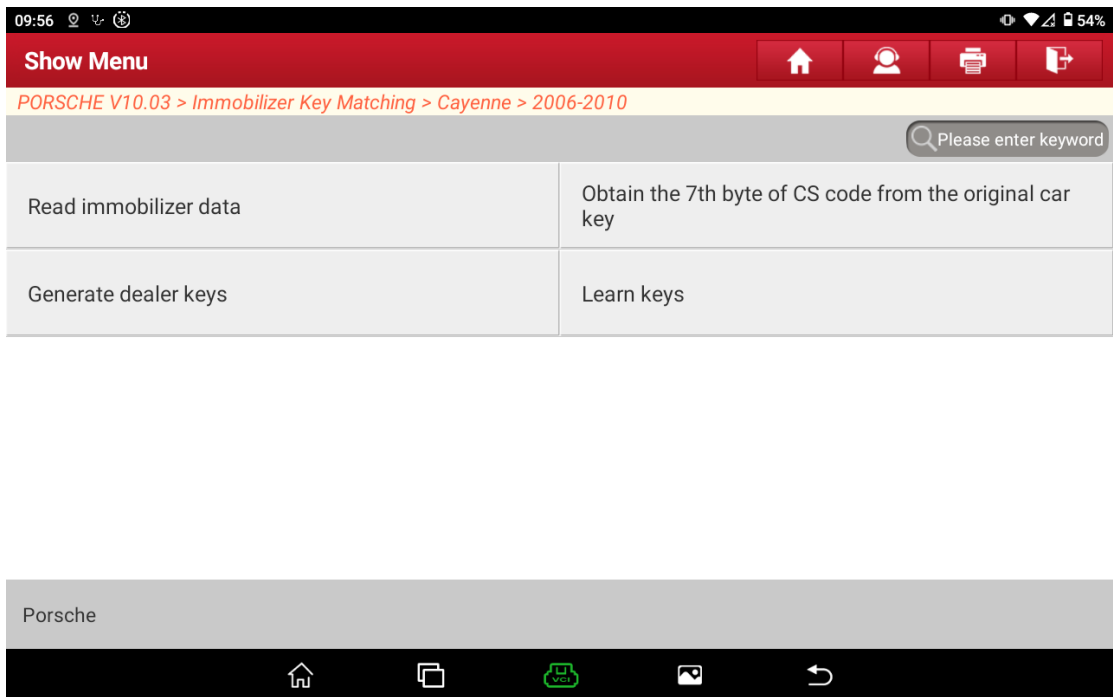

Figure 3 Submenus
2. Choose [Immobilizer Key Matching] > [Cayenne] > [2006-2010]. The current menu is shown in Figure 3.